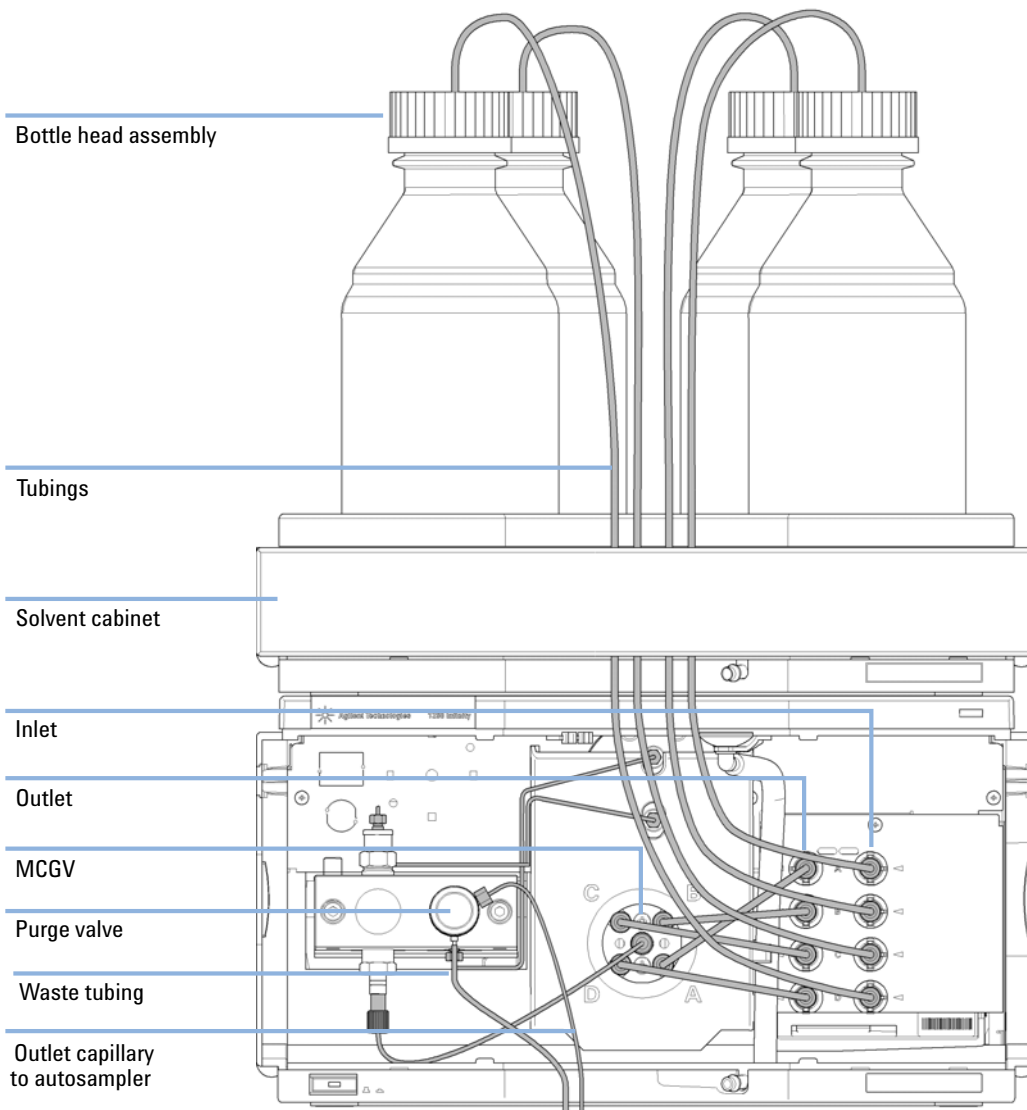

Figure 13 Flow Connections of the Quaternary Pump
- 4 Connect the inlet tubes from the bottle-head assemblies to the inlet connectors A to D at the right hand side of the vacuum degasser, see Figure 13 on page 53. Fix the tubes in the tube clips of the pump.